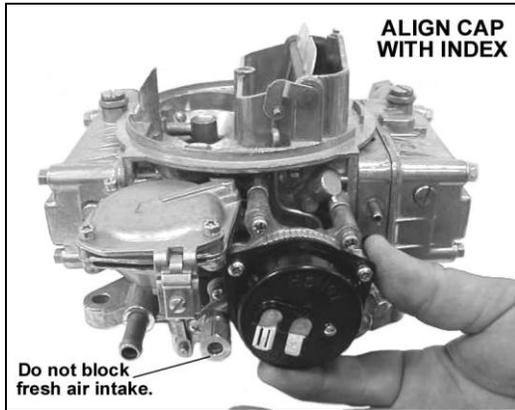

Figure 3
8. **IMPORTANT!** This step is to calibrate the choke. Locate the scribe mark on the cap and set it in line with the center index on the casting (Figure 3).
NOTE: Do not block the fresh air intake, as shown by the arrow in Figure 3.